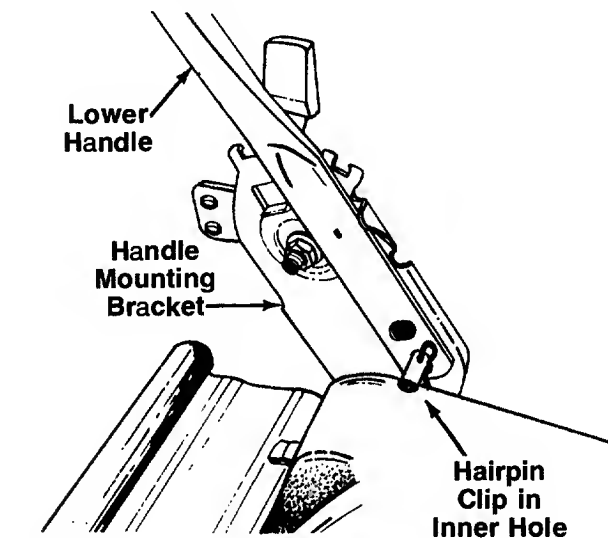

FIGURE 1.
2. Using a pair of pliers, squeeze one leg of the lower handle against the handle mounting bracket. Insert the hairpin clip into the **inner** hole on the weld pin. See figure 1. Repeat on other side.
**NOTE:** There are two (2) holes in the handle mounting brackets. Place the hairpin clip in the inner hole for operation. Outer hole is for storage.